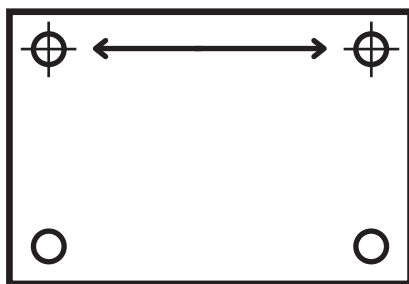

fig. 1
4. Measure from the centre of the pre-drilled hole (located on the glass wipe board) to the hole located horizontally as fig 1. Write down the measurement as you will need it for the next step. As a check the measurement should always be 50mm less than the size of your glass wipe board.